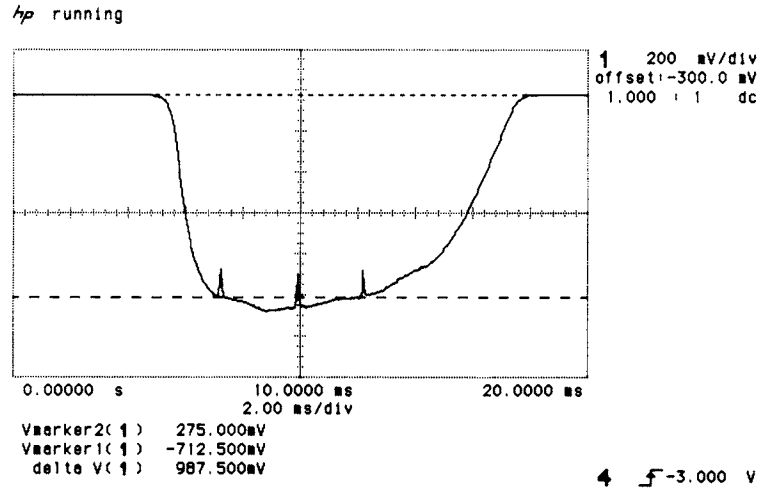

Figure 3-74. Sampler Waveform at A11A5TP1
36. The A11A5TP1 SAMPLER DC waveform displayed on the oscilloscope should be similar to Figure 3-74. The left, middle, and right vertical spikes visible on the voltage waveform correspond to synthesized sweeper marker frequencies of 160 MHz, 187 MHz, and 210 MHz, respectively. Adjust A11A5C2 to widen the waveform as far to the left as possible.
38. On the oscilloscope, press ($\Delta T \Delta V$), and turn on the voltage markers for the Channel 1 input. Place one voltage marker at the level of the 160 MHz (left) and 210 MHz (right) markers, and place the second voltage marker at the maximum voltage level of the displayed waveform, as shown in Figure 3-74. The voltage level of the displayed waveform between the 160 MHz and 210 MHz markers should be a minimum of 0.50 Vdc lower than the maximum voltage level.